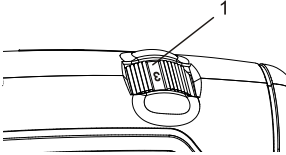

Fig. 1
Set the rotary tool speed by rotating the variable speed control dial (1) to the appropriate speed (Fig. 1). Position the speed control dial at "1" for slowest speed, "3" for medium speed and at "6" for the highest speed.